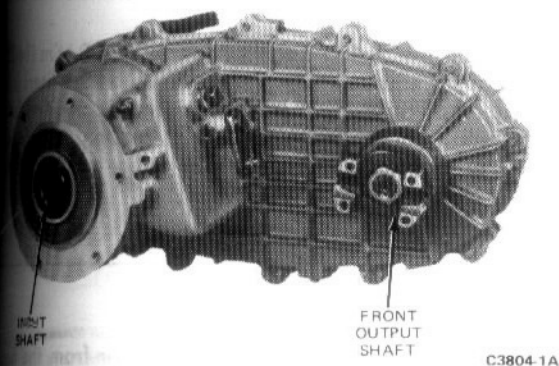

FIG. 1 Borg-Warner 1345 Transfer Case—Front View Case Half
The Borg-Warner 1345 is a two-piece all aluminum part time transfer case (Figs. 1 and 2). The unit is lubricated by a positive displacement oil pump that channels oil flow through drilled holes in the rear output
2. Drain fluid from case by removing filler plug from case half (Fig. 1).